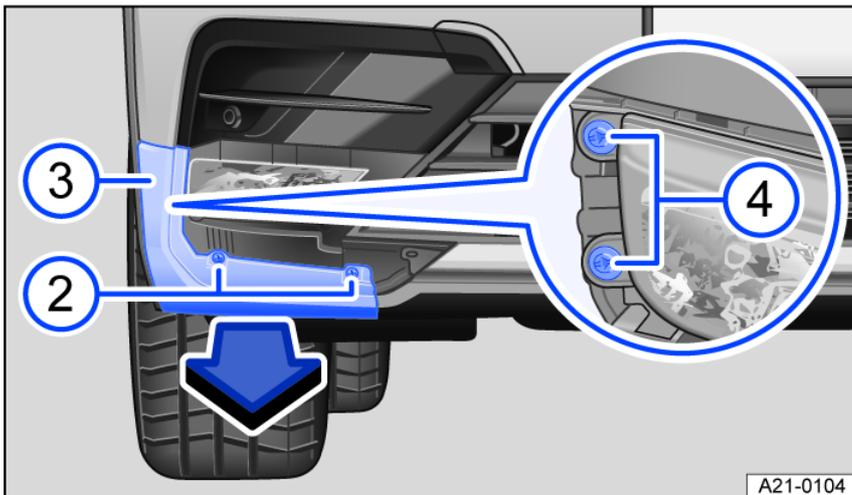

Fig. 180 In the right side of the R-Line front bumper: removing the fog lights.
2. Remove the screws in the trim panel using the screwdriver *fig. 180* ② ③.
3. Unclip the trim panel and remove in the direction of the arrow *fig. 180* ③.
4. Remove the fixing screws in the fog lights with the screwdriver *fig. 180* ④.
10. Plug in the connector to the bulb holder. The connector must audibly engage ⇒ ①.
12. Tighten the fixing screws in the fog light with the screwdriver *fig. 180* ④.
13. Insert the trim panel in the bumper in the opposite direction of the arrow *fig. 180* ③. The trim panel must engage securely in place.
14. Tighten the screws in the trim panel using the screwdriver *fig. 180* ② ③.